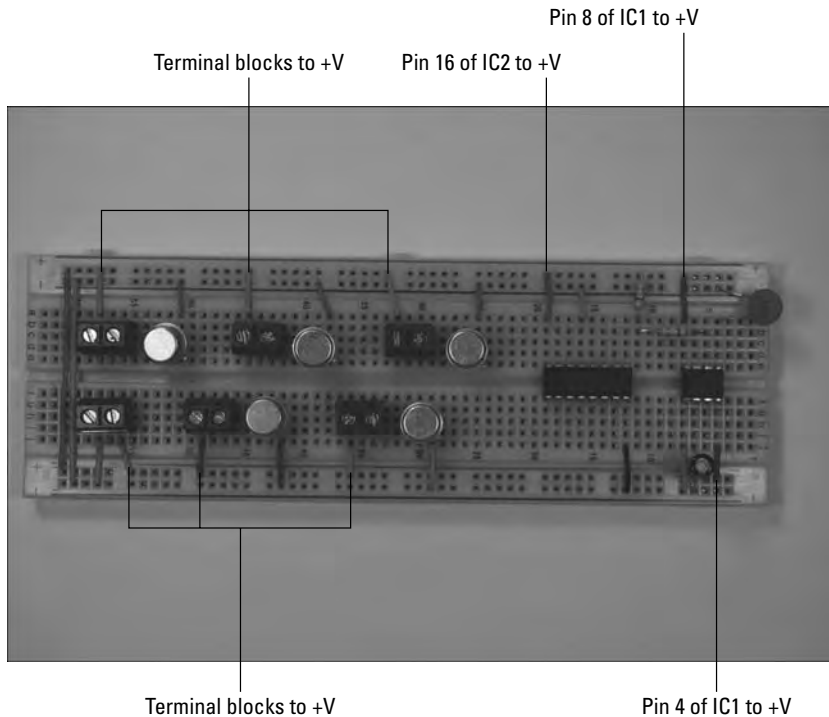

Figure 10-11:
4. Insert wires to connect the ICs and the terminal blocks to the +V bus, as shown in Figure 10-11.